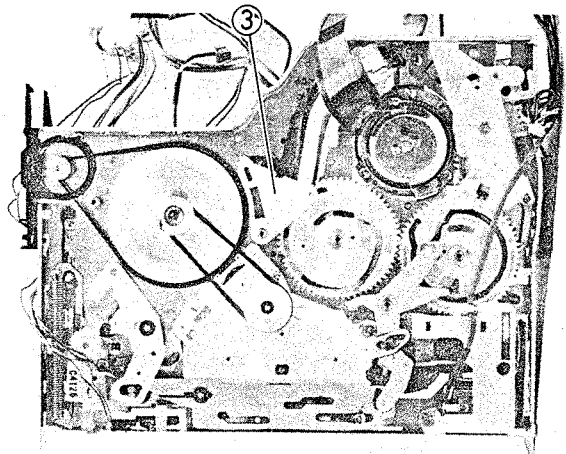

Fig. 2-108 A/C Head Control Arm Removal
A/C Head Control Arm Removal (Fig. 2-108)
3. Pull out the A/C head control arm. (See Fig. 2-108)
5. Remove the A/C head control arm. (See Fig. 2-108)